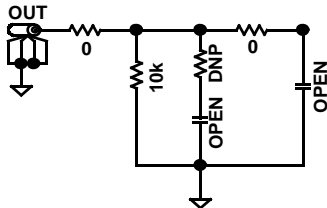

FIGURE 4. OUTPUT STAGE
**User-selectable Options (Figures 4 and 5)**
Component pads are included to enable a variety of user-selectable circuits to be added to the amplifier differential inputs, the VREF input, outputs and the amplifier feedback loop. The outputs (Figure 4) have additional resistor and capacitor placements for loading.